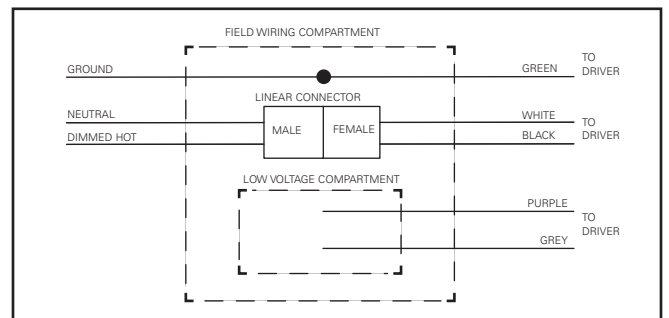

Figure 10.
- c. For Lutron 2 wire dimming, use black wire in field compartment for dimmed hot (Figure 10.).